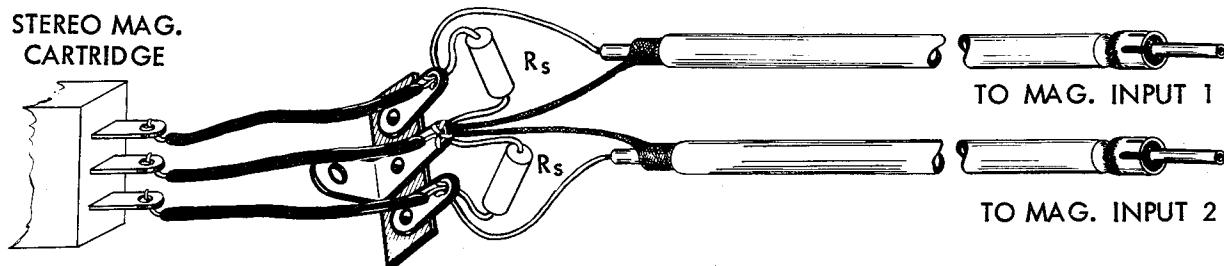

FIG. 3
1) MAG. PHONO 1, MAG. PHONO 2: These inputs are intended for the two outputs of a stereo magnetic cartridge, or for a stereo ceramic cartridge with adaptors. The correct method for wiring a three terminal cartridge is shown in Fig. 3. If the cartridge is a four terminal type, short the two inside terminals of the cartridge together and treat it exactly as if it were the single center terminal shown in Fig. 3. The loading presented to each output of the cartridge by each MAG. PHONO input is 100,000 ohms. If a lower loading resistance is required by the particular cartridge used, connect a shunt resistor of appropriate value from each outside terminal of the cartridge to the center (common) terminal. This can be done actually by mounting a 3-post terminal strip on the underside of the phonograph mounting board at a point near the lead break-out from the pickup arm. These shunt resistors are then wired to this terminal strip as shown in Fig. 3. The value of each of the two shunt resistors (R_s) can be determined from the desired loading resistance (R_l) by this formula